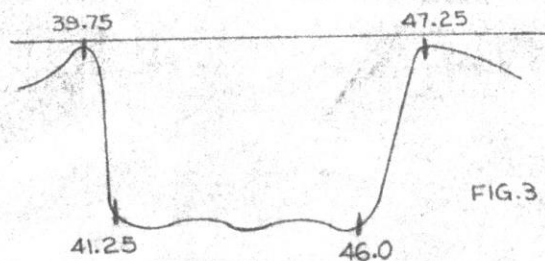

FIG. 3
- g. Tune T202 (bottom) and T203 (bottom) for response curve shown in Figure 3 while shorting lug B of T201. T203 predominant in shaping low frequency knee.